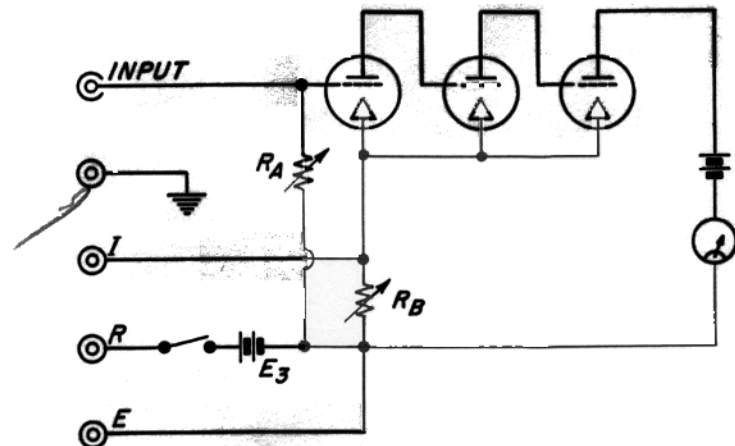

Figure 3. Guard-Point Arrangement.
2.3 RESISTANCE MEASUREMENTS. Resistance measurements are made by means of an auxiliary voltage, E_3 (9.1 volts if internal, any voltage up to at least 600 volts if external), connected in the series network of standard and unknown resistors (see Figure 3). The resultant voltage drop across the standard resistor is a measure of the unknown resistance. The meter is calibrated to indicate this resistance directly when E_3 is internal.
For measurement of three-terminal resistances or ungrounded resistances, a more flexible guard-ground system is desirable. To meet these situations, the Type 1230-A D-C Amplifier includes three guard terminals (I, R, and E), with provision for grounding any one of the three. Figure 3 shows the guard-point arrangement.